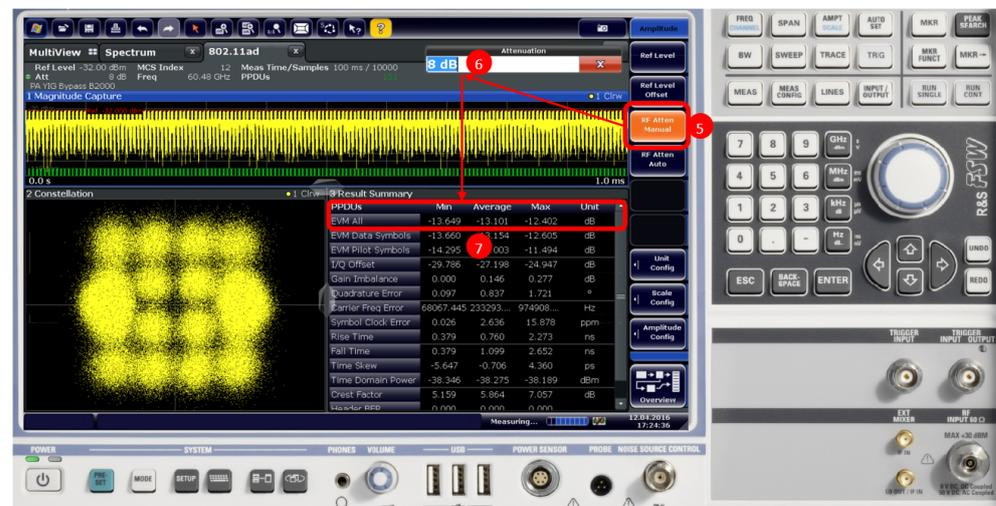

Figure 4-15: 802.11ad Mode
- Set RF attenuation to manual under **AMPLITUDE/RF Atten Manual**. (see Figure 4-15)